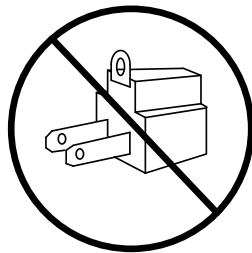

Figure 4
- Do not use an adapter. See Figure 4).